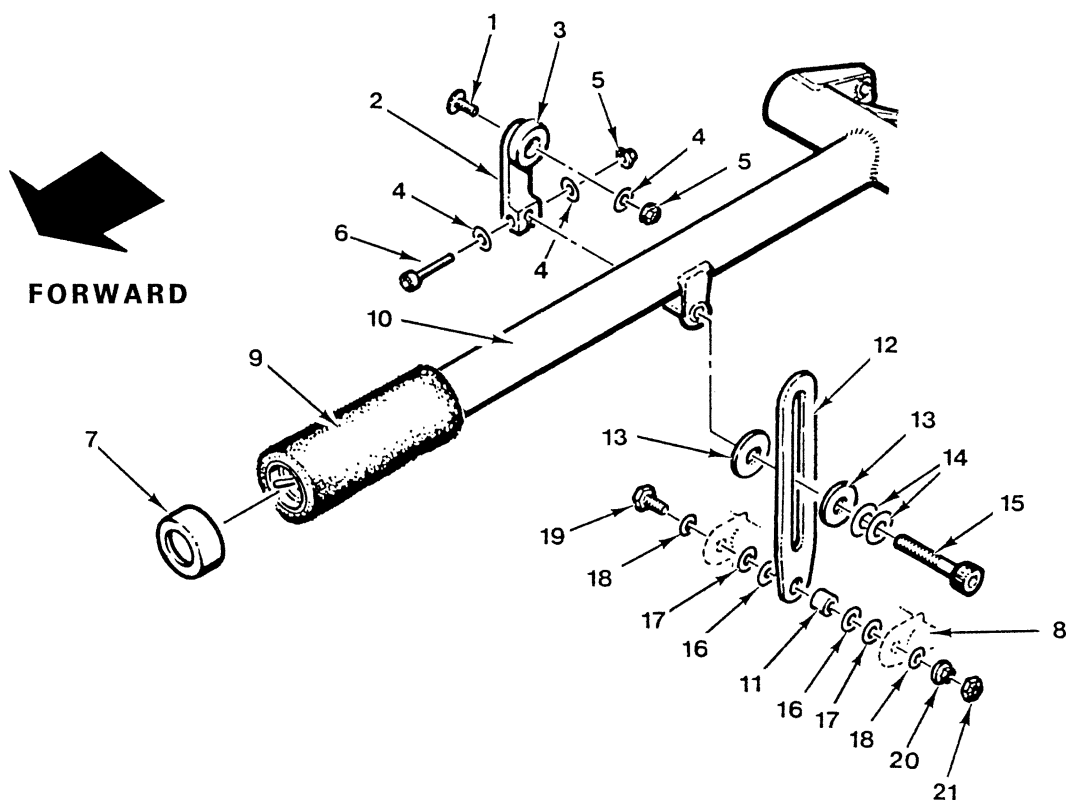

FIGURE 8-5 COLLECTIVE FRICTION ASSEMBLY
- a) Assemble A332-1 friction lever per Figure 8-5. The spring washers, item 14, should be assembled with their concave sides together. The two washers, item 13, are installed with the grey Teflon[®] coated surface against the A333-1 stop (item 12). The A332-1 lever is threaded onto the NAS1352-4-24P screw as the screw starts to protrude from the attachment fitting.
8.213 Pilot-Adjustable Collective Friction (see Figure 8-5)